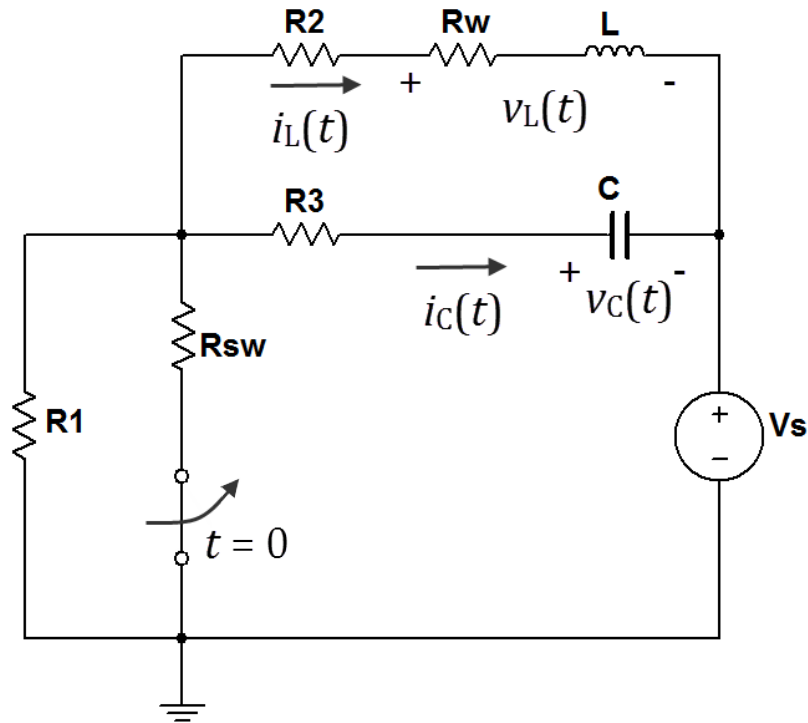

Figure 6.1: Circuit for Problem 6.1
The SPST switch in the circuit of Figure 6.1 on the following page opens at $t = 0$ after it had been closed for a long time. Draw the circuit configurations that appropriately represent the state of the circuit at $t = 0^-$, $t = 0$, and $t = \infty$ and use them to determine:
Enter the circuit of Figure 6.1 on the next page using the SPST switch for interactive simulation. Select Simulate → Interactive Simulation Settings and set “Maximum time step (TMAX)” to $1\text{e-}006$ to obtain the needed resolution for this circuit.
1. Construct the circuit of Figure 6.1 on the facing page using the following components and NI ELVISmx instruments (do *not* place resistors R_{sw} and R_w because they simply model the finite resistance of the analog switch and the inductor):